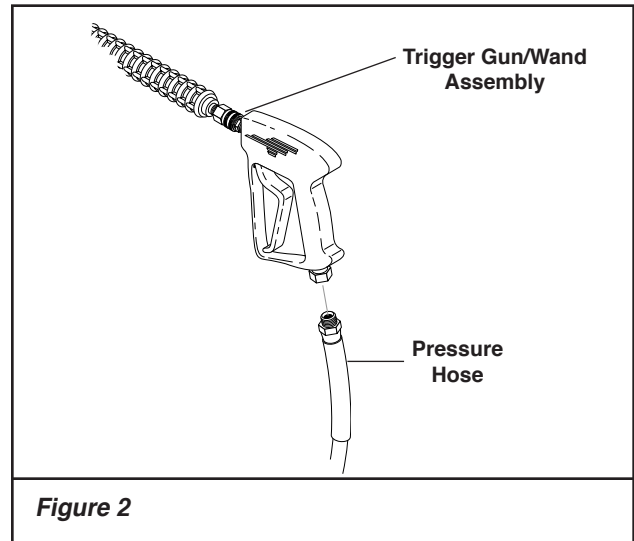

Figure 2
3. Assemble pressure hose onto trigger gun/wand assembly as shown in **Figure 2**.